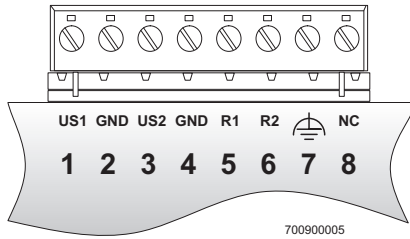

Figure 4 Terminal assignment
**i** The alarm contact is open if voltage is present at both supply voltage terminal blocks US1 and US2. In the event of an error at one of the two voltage sources, the contact is closed. If the voltage is not supplied redundantly, terminal blocks US1 and US2 must be jumpered (see Figure 4, version 1), so that the voltage can be monitored via the alarm contact.